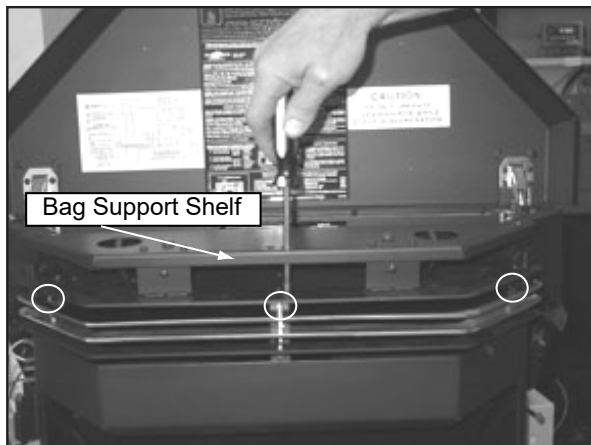

Figure 23.1
4. Use a Phillips screw driver to secure in place. It will be necessary to go through the hole in the bag support shelf to gain access to the screw. **Figure 23.1.**